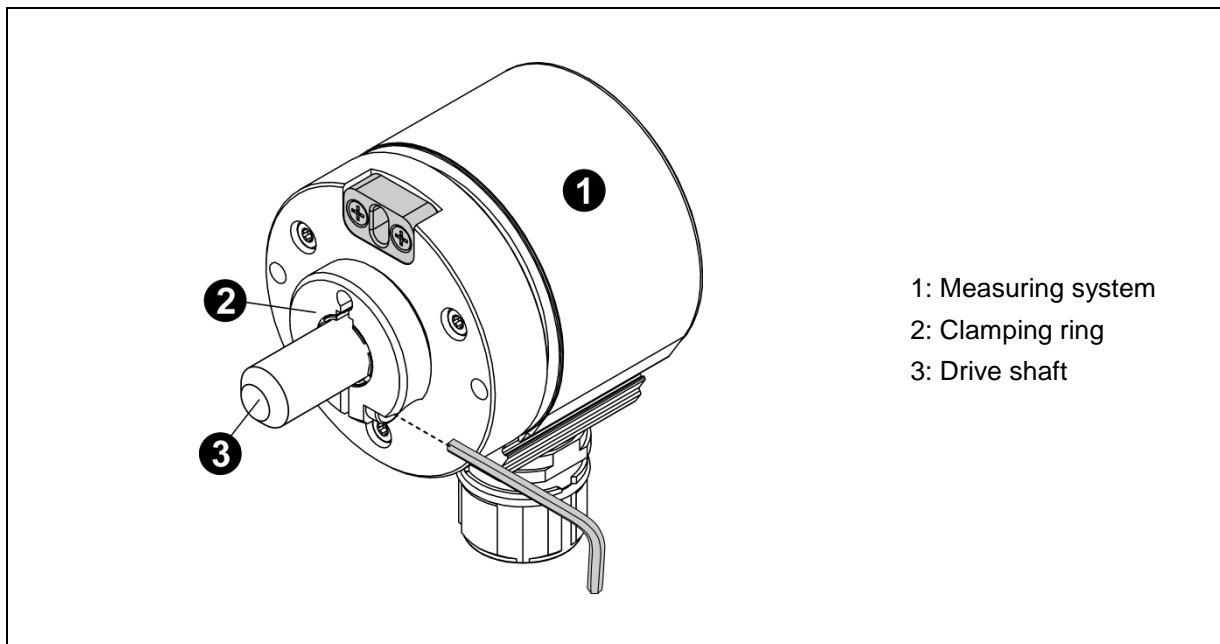

Figure 2: Friction locking
- Axial slipping of the measuring system on the drive shaft must be prevented by fixing the clamping ring in position, see Figure 2.
- A dowel pin is used to fix the measuring system on the drive end, see Figure 2.